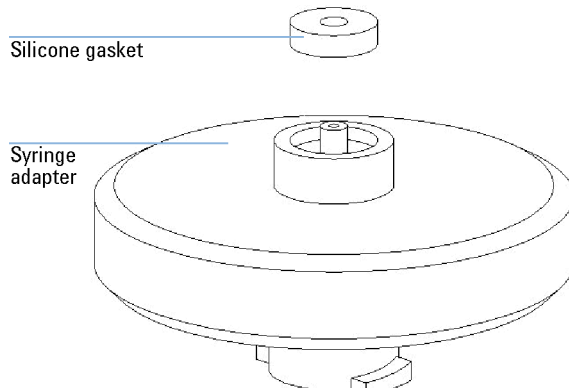

Figure 7 Syringe adapter with disassembled gasket
- 2 Pull out the old silicone gasket with your fingers or tweezers. See Figure 7 on page 170 for a disassembled adapter.